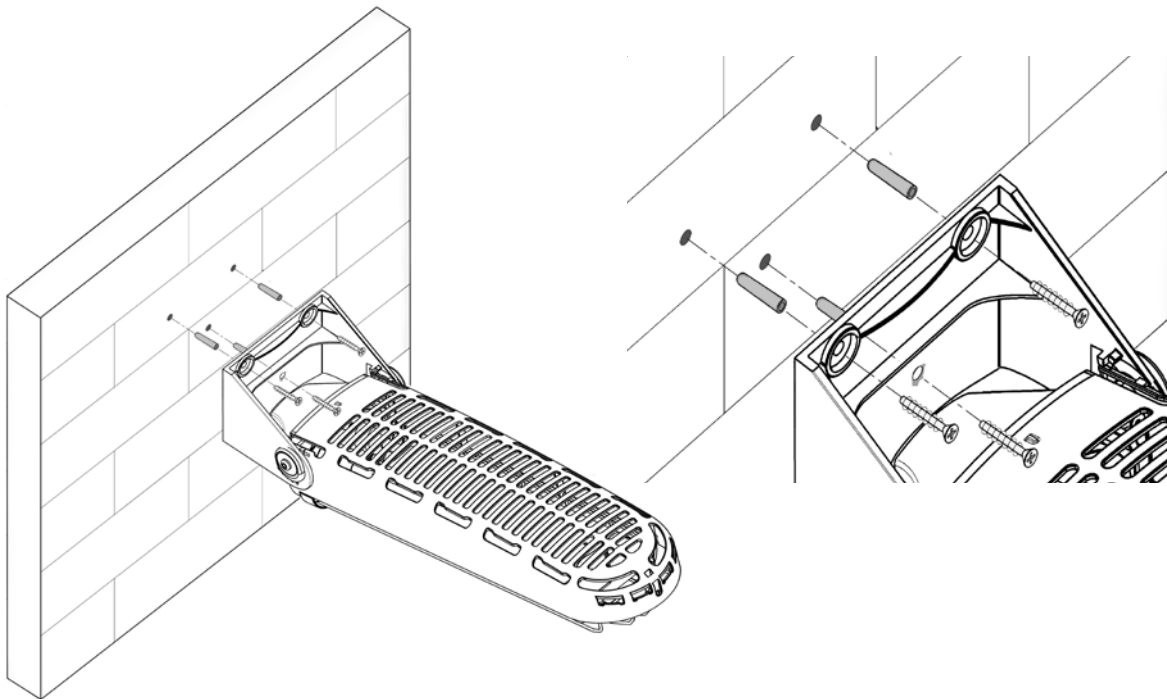

Fig.5
#### *Wall mounting (fig.5)*
1. Drill 3 holes with a 5 mm diameter bit in the wall and fix the wall bracket, ensuring that the slots are facing down. Fig.5, fig.2B.